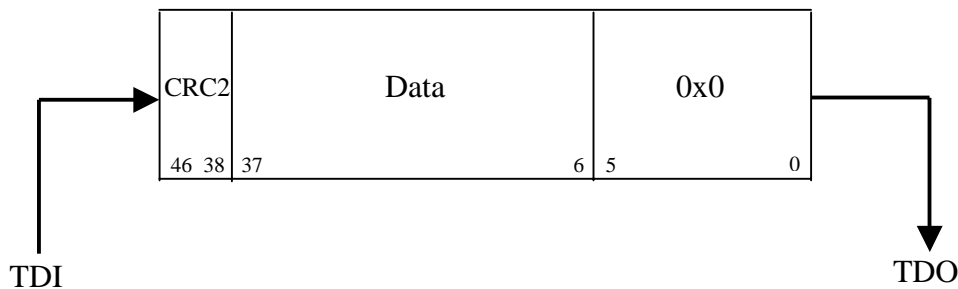

Figure 8: Register Scan Chain (data shifted out)
- CRC2 (Figure 8: Register Scan Chain (data shifted out)) is shifted out. It is calculated from the address and the R/W that were shifted in and data that is shifted out (data read from register) when read operation is in progress or from delayed CRC1 when write operation is in progress.